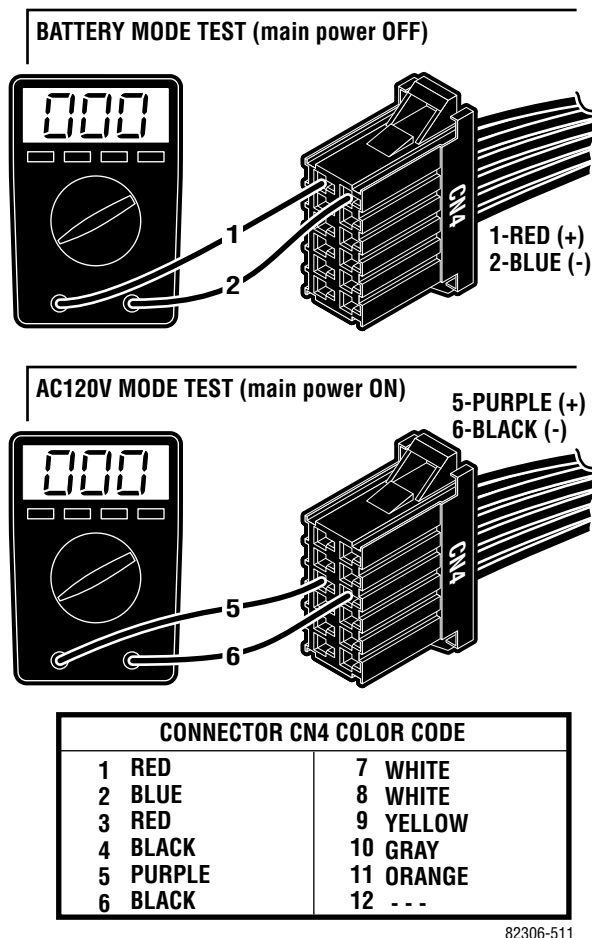

Figure 5-11. Relay Box Input
2. Using a DC voltmeter, test input power for both the BATTERY and AC120V operating modes. See figure 5-11. Meter should read approximately 24 -28 volts.